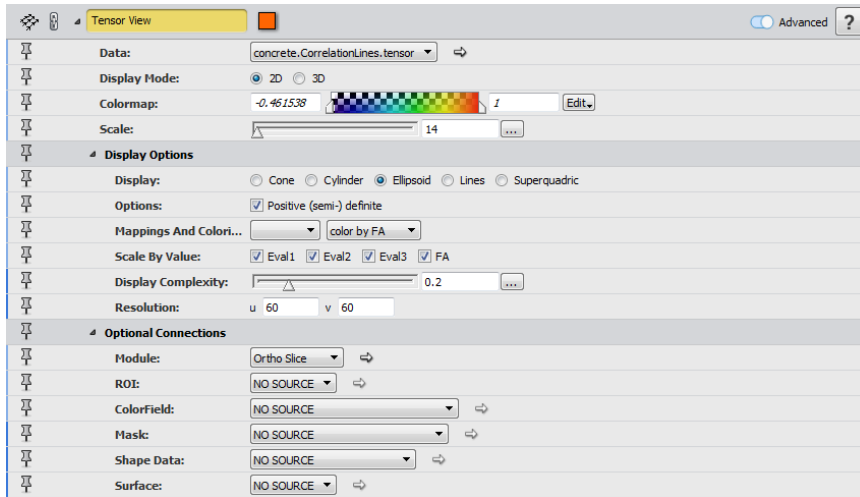

Figure 12.36: Tensor View Parameters
- You may set the *Module* port of the *Tensor View* to a different plane than the default clipping plane. For example, use the *ortho slice* on which the density map is visualized. Set the parameters as shown in Figure 12.36.